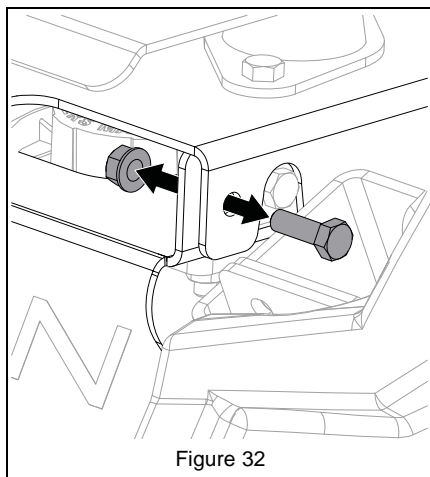

Figure 32
4. Remove and retain hardware securing seat plate to seat mount. See Figure 32.